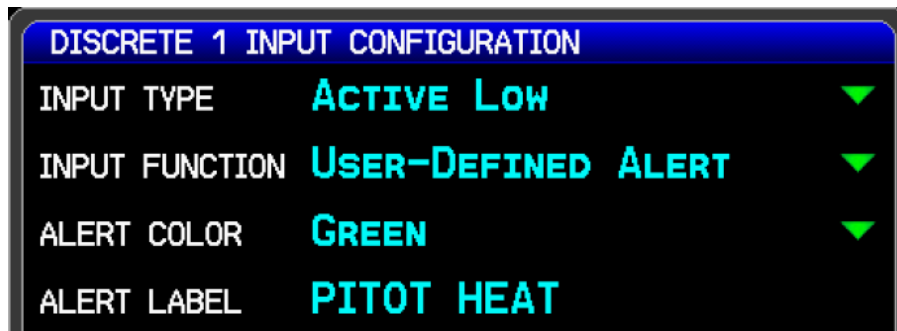

Figure H-38 Configuration #1
1. The discrete input configuration shown in Figure H-38 will result in a green "PITOT HEAT" indication that will appear on the PFD any time the GAP 26 heater is powered and the probe temperature is above approximately 25° C (77° F). If pitot heat is powered off or inoperative, the green "PITOT HEAT" indication will not appear.